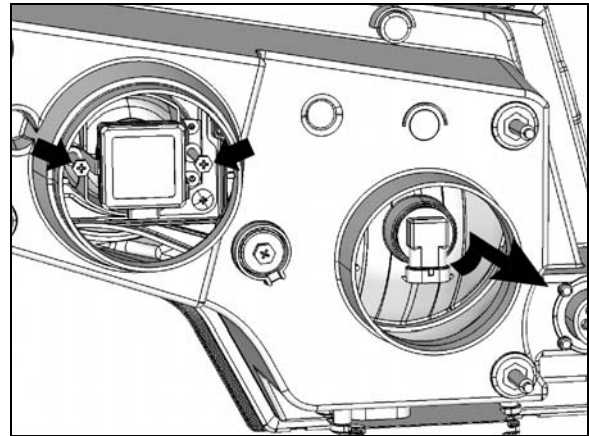

FIGURE 30: HEADLIGHT ASSEMBLY REAR VIEW 06715
5. HALOGEN: turn the bulb base counterclockwise. XENON: Unscrew the Phillips head screws indicated by arrows, pull the retainer and bulb out (fig.30).